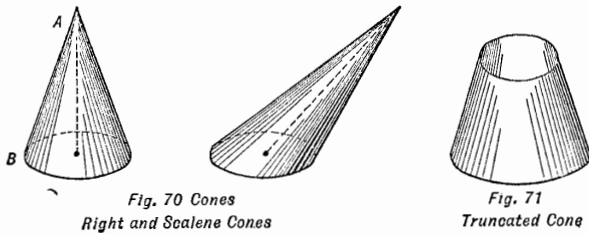

Fig. 70 Cones
cones and cones with any shape of base are said to be generated by a line one end of which remains fixed at the apex while the other extremity of the line is kept constantly in contact with the base. In this case the generating line at any position is an element of the surface. Fig. 70, shows right and scalene cones.
82. A *Scalene* or *Oblique Cone* is one whose axis is inclined to its base. Pyramids may also be scalene or oblique. Fig. 70.
84. The *Slant Height* of a right pyramid is the distance from its apex to the middle of one side at its base. The *Slant Height* of a cone is the distance from its apex to any point on the circumference of its base; in other words the length of an element of its surface, as A-B in Fig. 70.